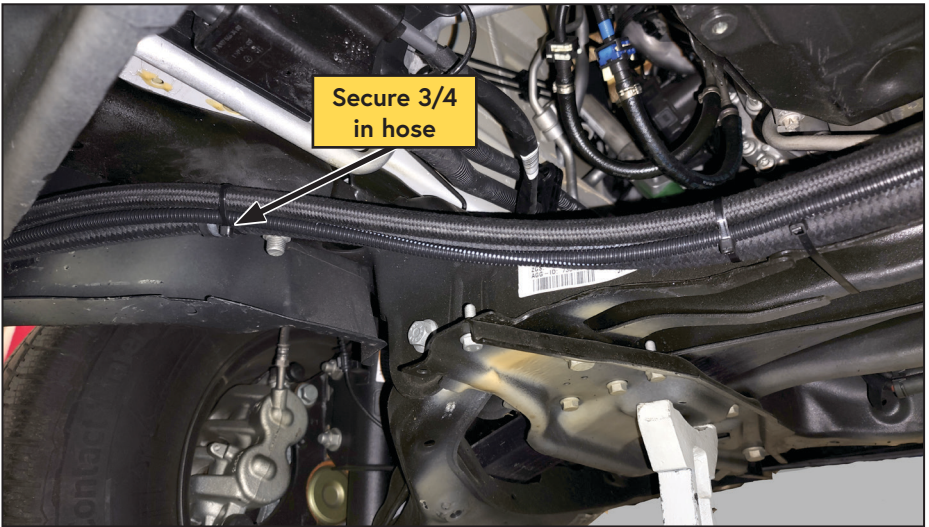
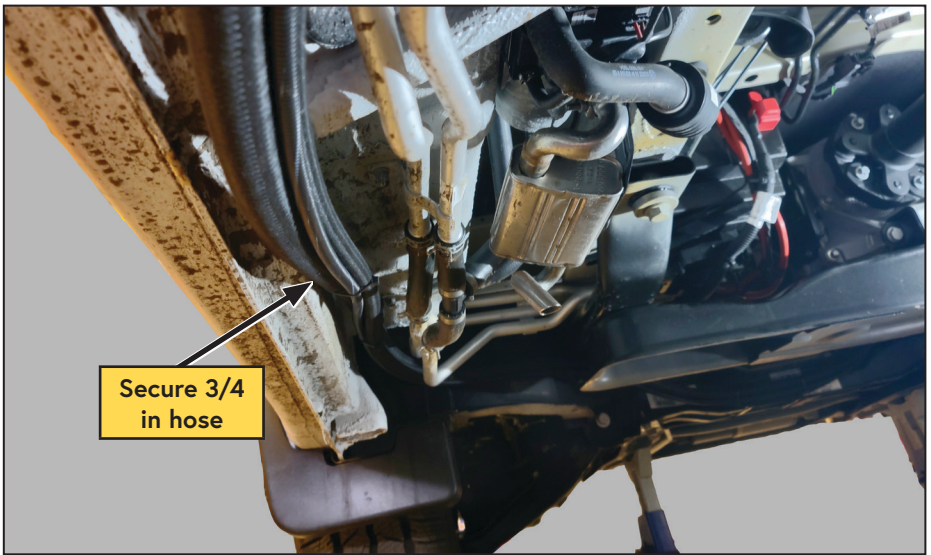
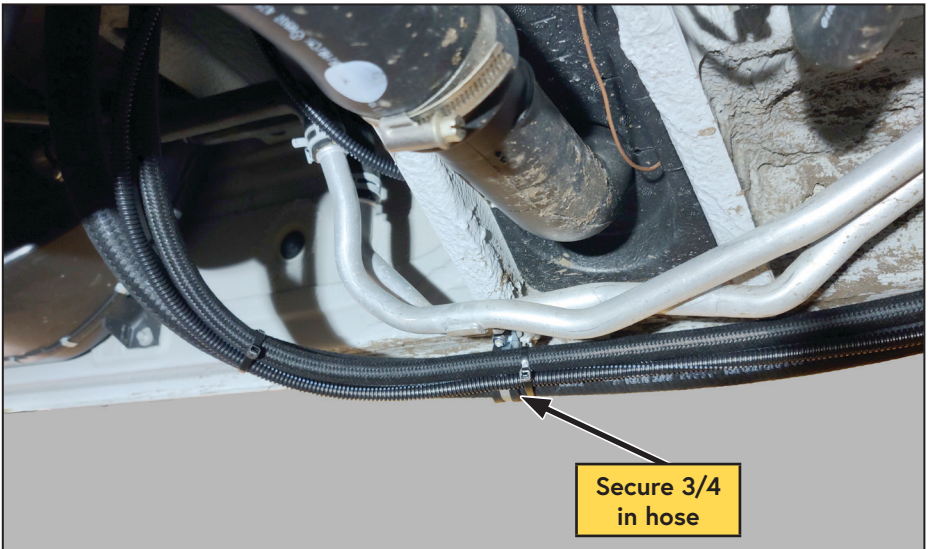

Figure 37 — Route hoses
Figure 38 — Route hoses
Figure 39 — Route hoses
- Route the hoses along the base of the frame/body, and up to the bulkhead fittings installed earlier (Figure 37, Figure 38, and Figure 39).
- Using the supplied P-clips and fasteners, secure the 3/4 in hose to the 6 mm studs on the body (Figure 37, Figure 38, and Figure 39).